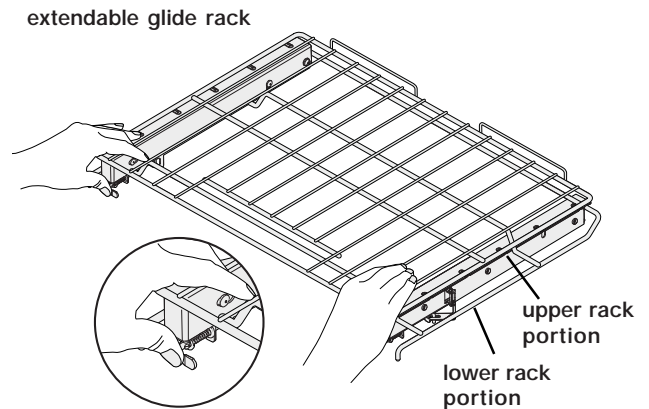
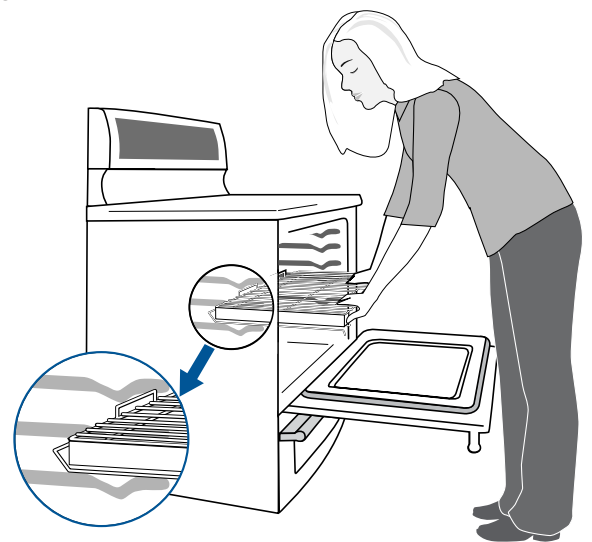

Fig. 1
Fig. 2
- **To remove** use thumbs to press in on both left and right spring-loaded release levers -*Fig. 1*-. Place the remainder of both hands over the upper front of the glide rack. While pressing in on both levers, pull the rack straight out **slightly** and release thumb levers. Using both hands grasp **both the upper and lower portions** of the glide rack -*Fig. 1*; pull rack using both hands straight out until reaching the stop position -*Fig 2*-. At the stop, lift up front of rack slightly and continue to pull rack away from oven -*Fig 3*-. Be sure to hold on both upper and lower rack portions when removing from or handling rack outside of the the oven - these rack portions move independently and are difficult to handle unless held together.